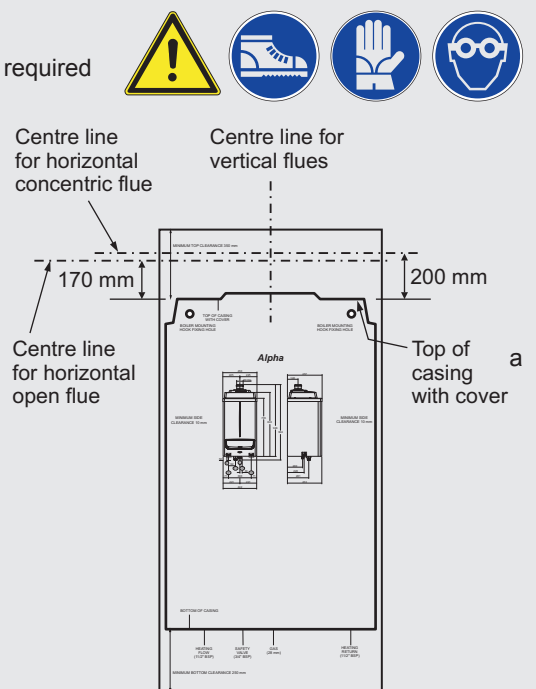

Fig. 5.3
5.3 PREPARE THE WALL - Fig. 5.3